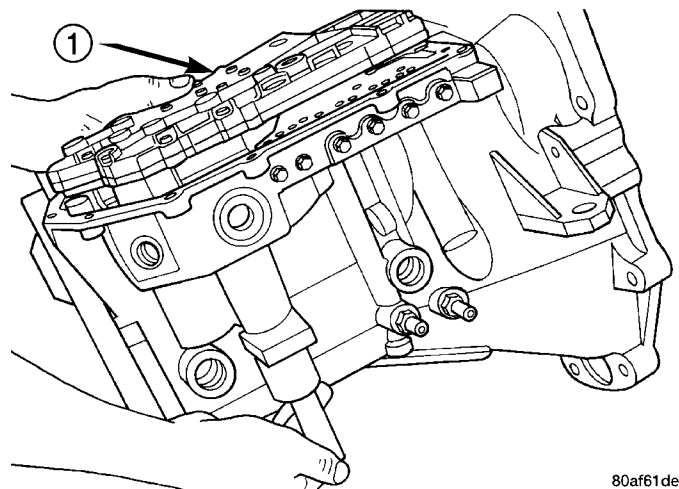

Fig. 153 Install Valve Body
(63) Install valve body to transaxle (Fig. 153). Rotate manual valve shaft fully clockwise to ease installation. Make sure park rod rollers are positioned within park guide bracket.